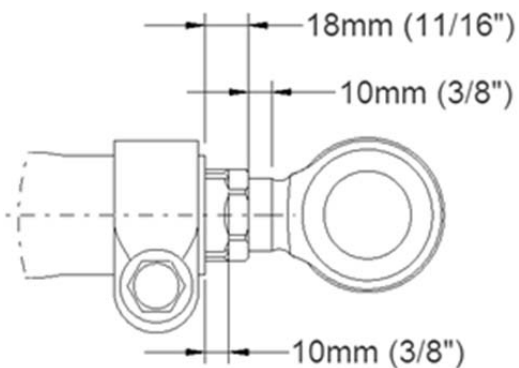

FIGURE 12
- 15. Adjust sleeve to the values of FIGURE 12.